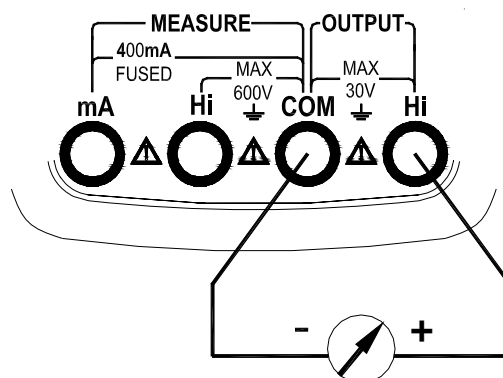

Figure 9.DC Voltage Output
- Insert one end of the test lead into the **Hi** (OUTPUT) jack and **COM** jack of the meter and connect the other end to the input of the user's instrument as shown in the Figure 9:
1. Insert one end of the test lead into the **Hi** (OUTPUT) jack and **COM** jack of the meter and connect the other end to the input of the user’s instrument as shown in the Figure 9: